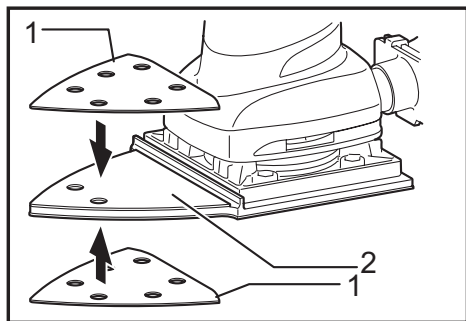

Fig.3
- Fig.3: 1. Velcro sandpaper 2. Base